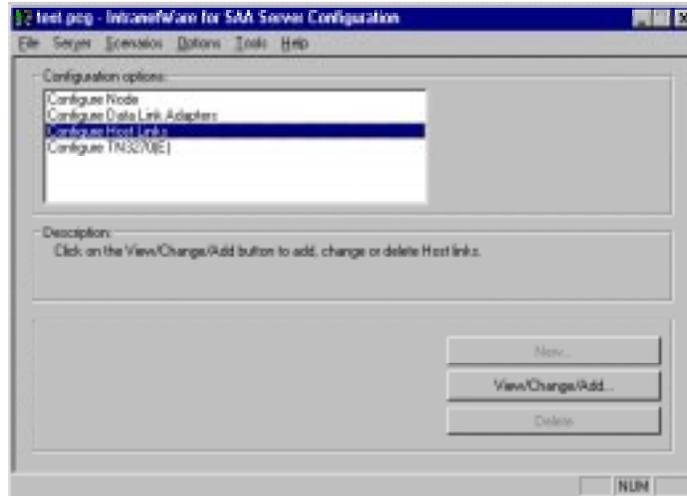

Figure 15-19. To Verify Host Links
3. Click **Cancel** to return to the main configuration menu. Double click “**Configure Host Links**” (Figure 15-19).